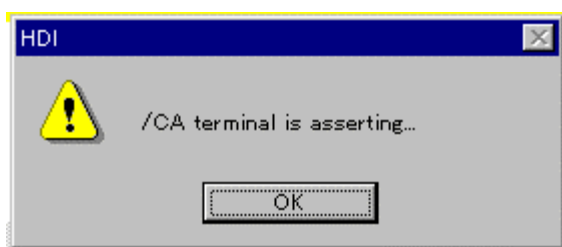

Figure 6.17 Message Box for Entering the U Standby State
1. In the software standby mode, when the /CA pin is asserted, the emulator enters the U standby state and the message box shown in figure 6.17 is displayed. To cancel the U standby state, be sure to end the message box before asserting /RESETP from the user system.